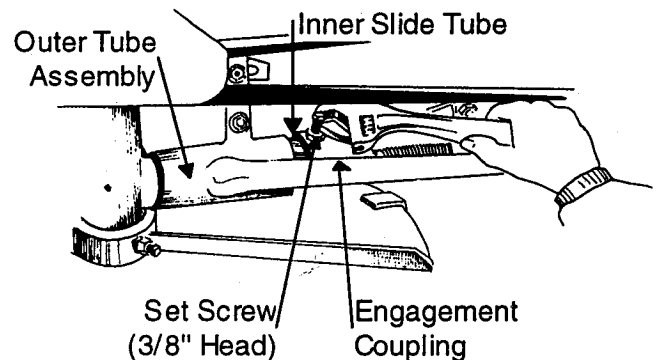

Figure 14
- Pull the blade clutch lever toward the handlebar to release belt tension. With a screwdriver or nail, scratch a mark on the inner slide tube to mark the present position of the engagement coupling. Loosen the set screw on the coupling (Figure 14).